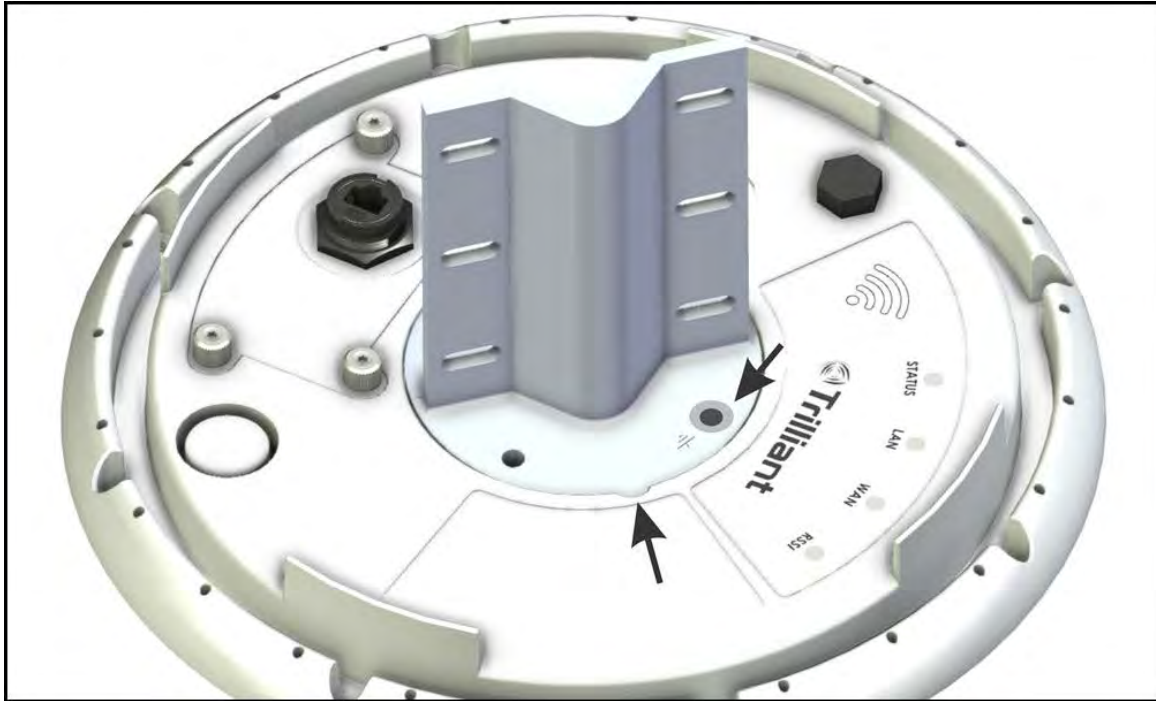

Figure 6: Bottom view of the GATE-2000 base enclosure
2. Align the rounded point on the clamp mount with the notch on the base of the GATE-2000 (see Figure 6).